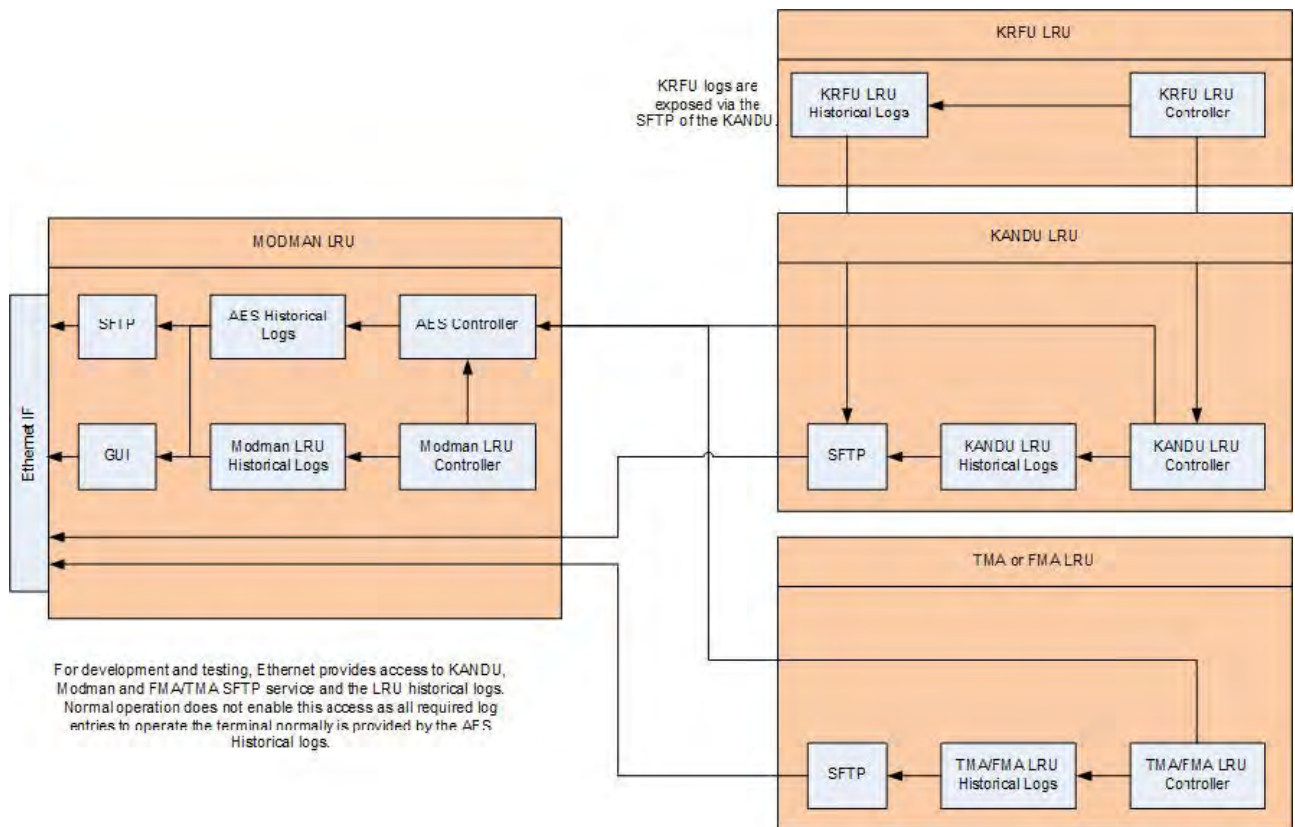

Figure 3-23. AES and LRU Controller Interaction
- (f) The diagram that follows is a detailed description of how the AES controller, the LRU controllers, the historical logs, and the means of access to those logs interact. Refer to Figure 3-23.